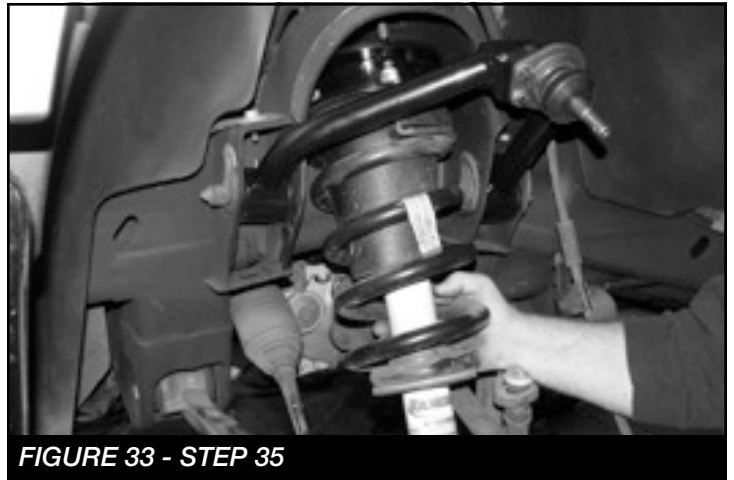

FIGURE 33 - STEP 35
35. Locate the three 7/16" nylock nuts and install the coil over into the upper shock mount. Leave loose at this time. **SEE FIGURE 33**